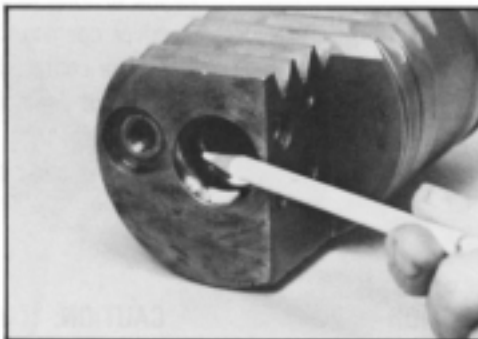

Figure 89
2. Inspect the rack piston internal ball-track grooves for brinelling (dents) or spalling (flaking). SEE FIGURE 89. If either condition exists, you must replace the rack piston (39), worm shaft (23) and use a set of service balls (34).